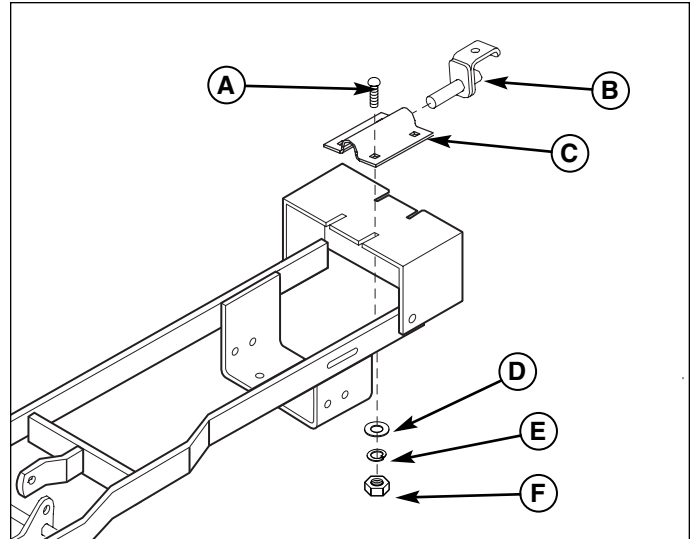

Figure 5. Install Support Clamp
- Attach the support clamp (C, Figure 5) and hook assembly (B) to the hitch. Secure with four 5/16-18 x 1 carriage bolts (A), washers (D), lockwashers (E), and nuts (F). Do not tighten the hardware at this time.